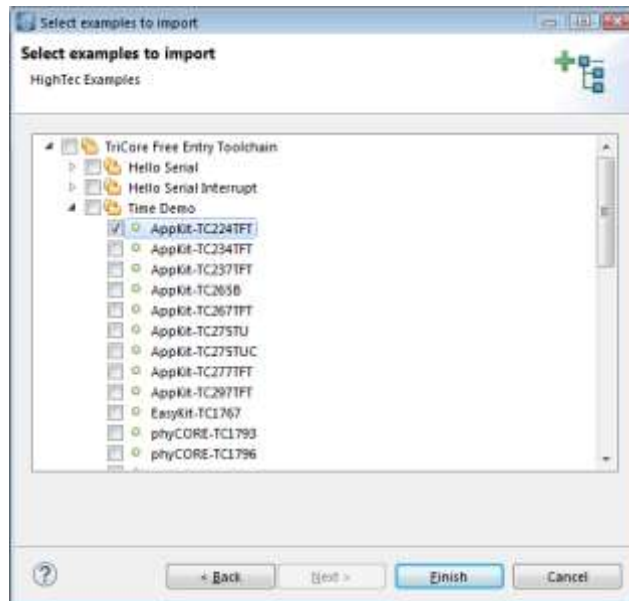

Figure 13 Examples – Hardware Selection
3. The next wizard page (Figure 13) shows a selection tree containing the TriCore boards supported by the toolchain. Expand the sample node e.g. **TimeDemo** and select **AppKit-TC224TFT**. Press Next.